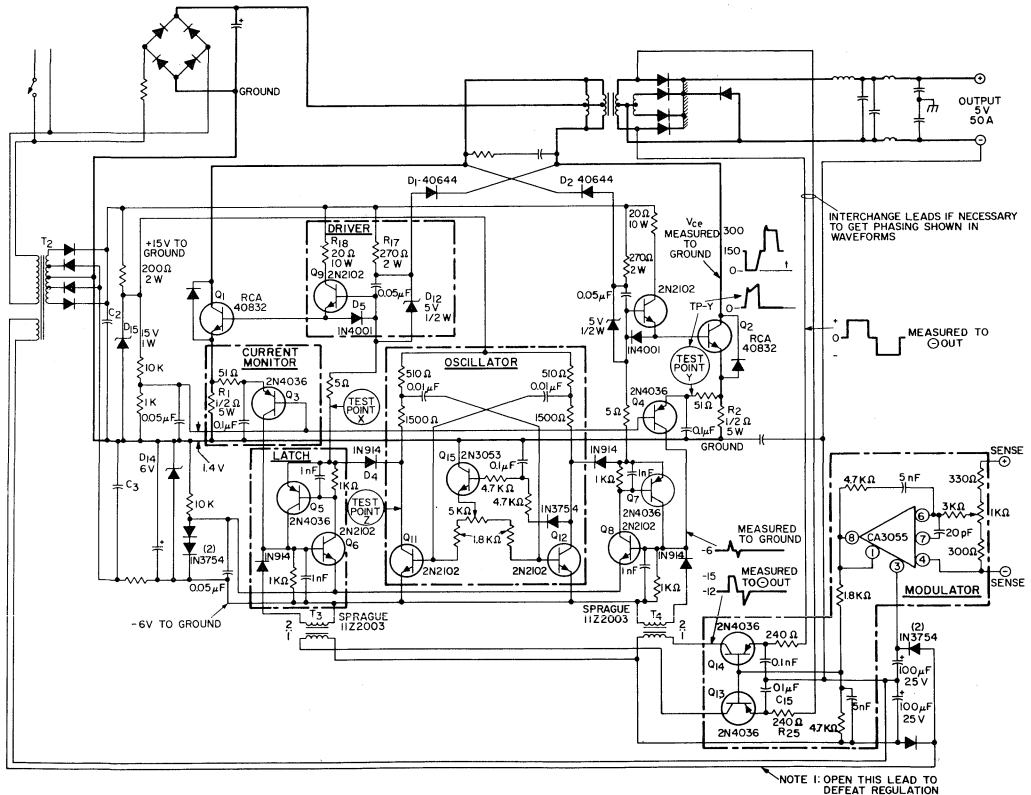

Fig. 6 - Diagram of switching-regulator power supply, with modulator circuits emphasized.
- (1)  $V_{EE}$  is negative voltage source applied to the base.
- (2) Importance depends upon drive-circuit design. For the design shown,  $V_{BE} (\text{sat})$  is not critical.
- (3) Because of the great variations in parameters and waveforms, some standard test condition is used for control. The manufacturers standard conditions are usually adequate control.
**Fig. 4 - Waveform of emitter current in power-switching transistor showing effects of core-size and number of primary turns, with regulation defeated (see note on Fig. 6).**
Voltage regulation and overload regulation are accomplished by reducing the duty cycle of the power-switching transistors. The duty cycle is reduced by triggering the latches on (see Fig. 6 and Table IV), either from pulse transformers T3 and T4 to regulate the output voltage, or from transistors Q3 and Q4 to prevent excessive emitter currents in the power-switching transistors. The excessive currents could be caused by overloads at the output or by transformer core saturation resulting from unbalanced duty cycles.
A major consideration in the design of this power supply is the protection of the switching transistors and the load circuit from damage caused by transients or faults in the modulator. The faults most likely to occur are lock-up in the oscillator, transient turn-on of the latching transistors caused by  $dv/dt$  at point X in Fig. 6, and magnetic pickup in the pulse transformers. The circuit is designed so that any of these faults will cause the power-switching transistors to turn off; this design protects the transistors and keeps the output voltage low. The overcurrent protection circuit is made independent of the proper functioning of the output regulator or its associated circuits, and is dc-coupled to minimize the possibility of failure. Finally, if the low-voltage supplies fail, the output voltage merely falls to zero without any harmful surges.